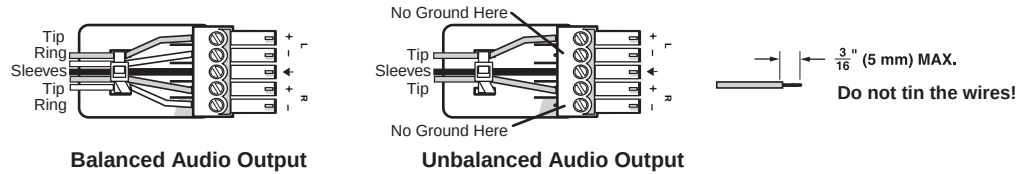

Figure 5. Captive Screw Connector Wiring for Audio Signals
- Ⓓ **Audio connectors** — Insert a 3.5 mm, 5-pole captive screw audio connector for each extraction point. This output is unamplified line level audio. Wire the connector as shown in figure 5.